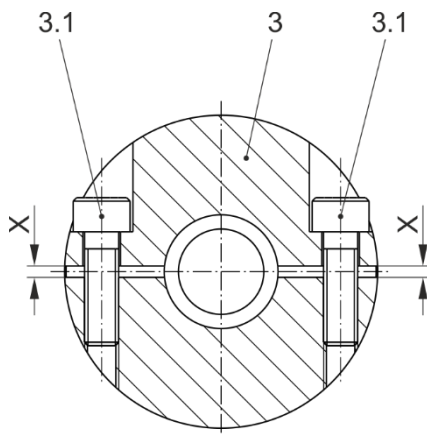

Fig. 13
- 2) Tighten the clamping screws (3.1) alternately and in several tightening sequences to the tightening torque stated in Table 5. Please make sure that the gap "X" (Fig. 13) has the same size on both hub sides. If necessary, re-adjust it.